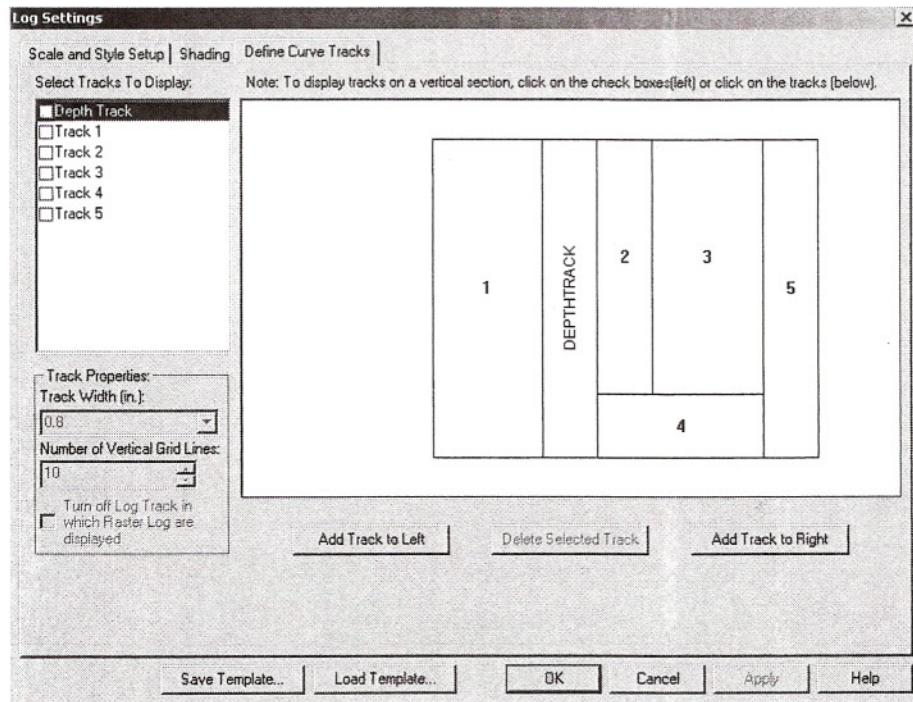

Figure 3.10 — Log Settings dialog box with Define Curve Tracks tab active
6. Click the **Define Curve Tracks** tab. Make sure that no tracks are selected. The Define Curve Tracks should be look similar to Figure 3.10. Click **OK**.